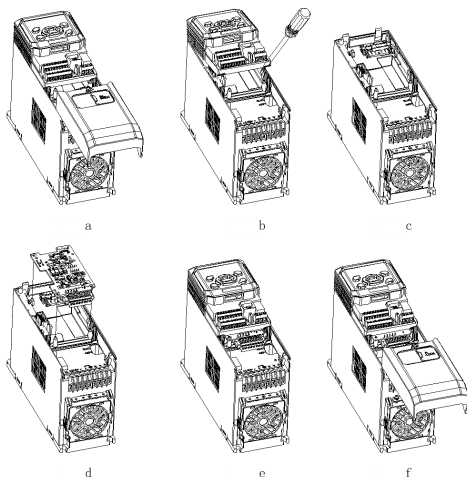

Figure 2-3 Steps of the PG card installation on Position 1
(1) Make sure the drive is in the power off state. Press the granulated area on the middle-upper part of the lower cover, slide it down with proper force till the cover is taken off from the drive, as shown in Figure 2-3-a.
(2) Use a small-size straight screwdriver to pry open the two spring snaps that
connect the bottom of the operating panel with the drive, and take off the operating panel, as shown in Figure 2-3-b and Figure 2-3-c.
(3) Mount the PG card: hold the card with the terminal block pointing downward, align the three location holes with the location columns on the drive, and press the PG card downward with proper force to secure it by buckling the four spring snaps, as shown in Figure 2-3-d.
(4) Align the spring snaps of the operating panel, press the panel downward with proper force to secure it by buckling the spring snaps; align and slide the lower cover till it is buckled in place, as shown in Figure 2-3-e and Figure 2-3-f. The installation of the PG card is then completed.